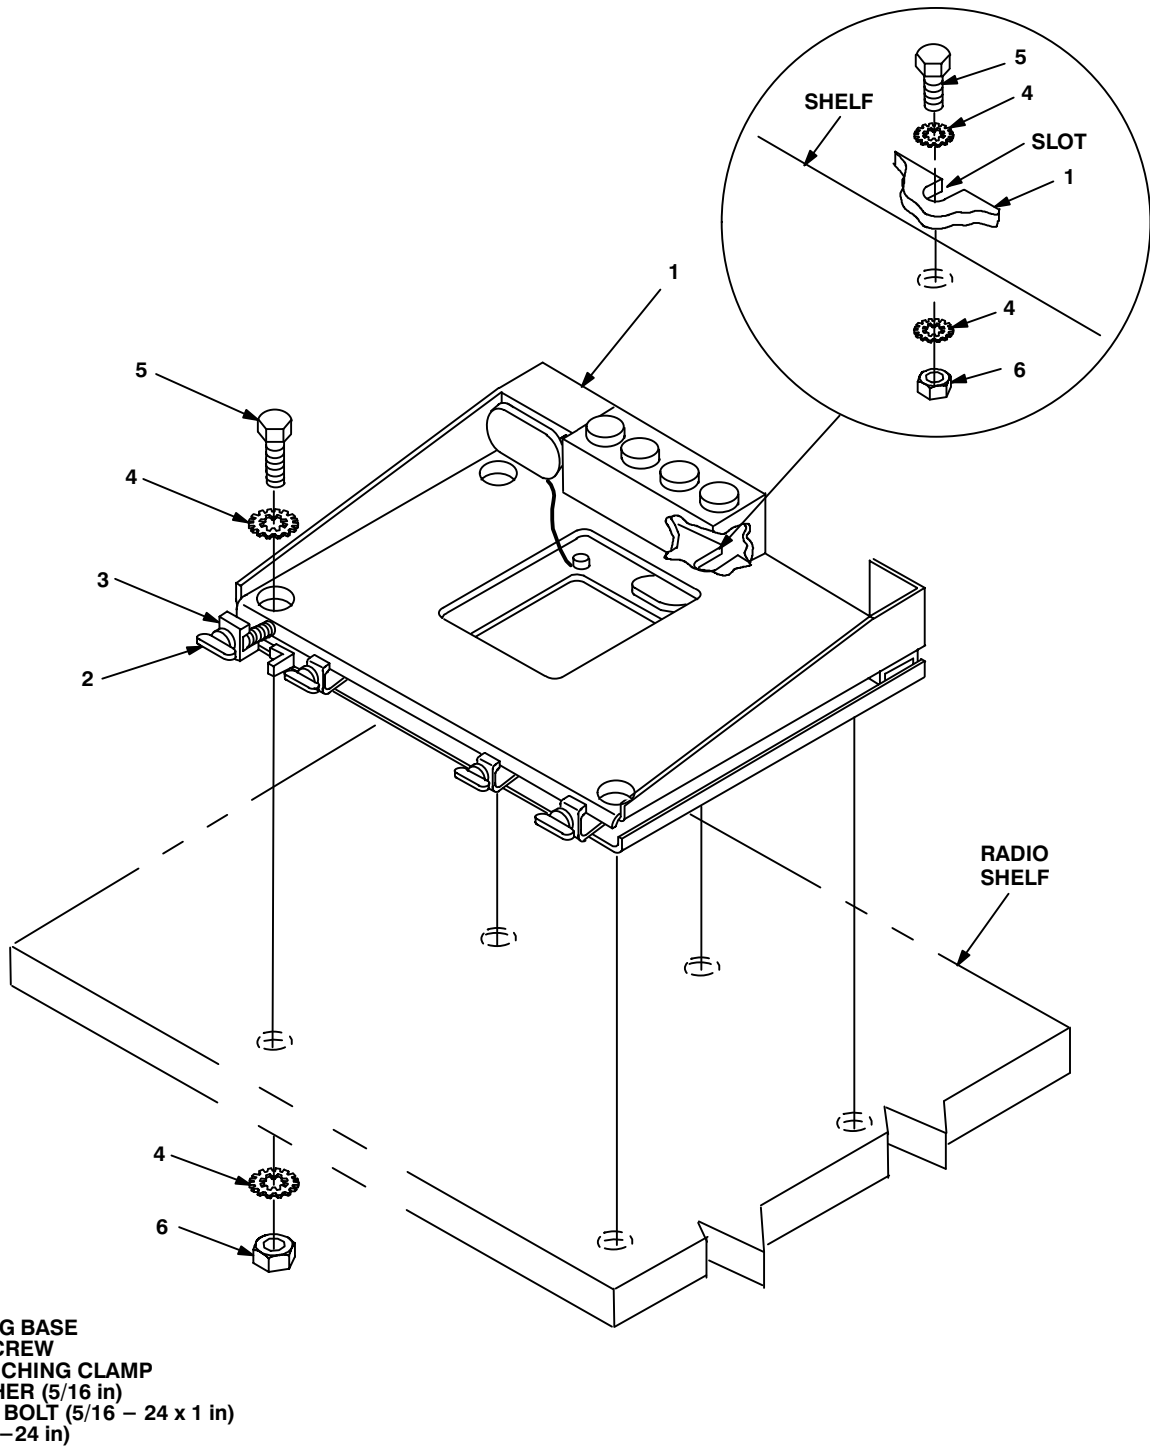
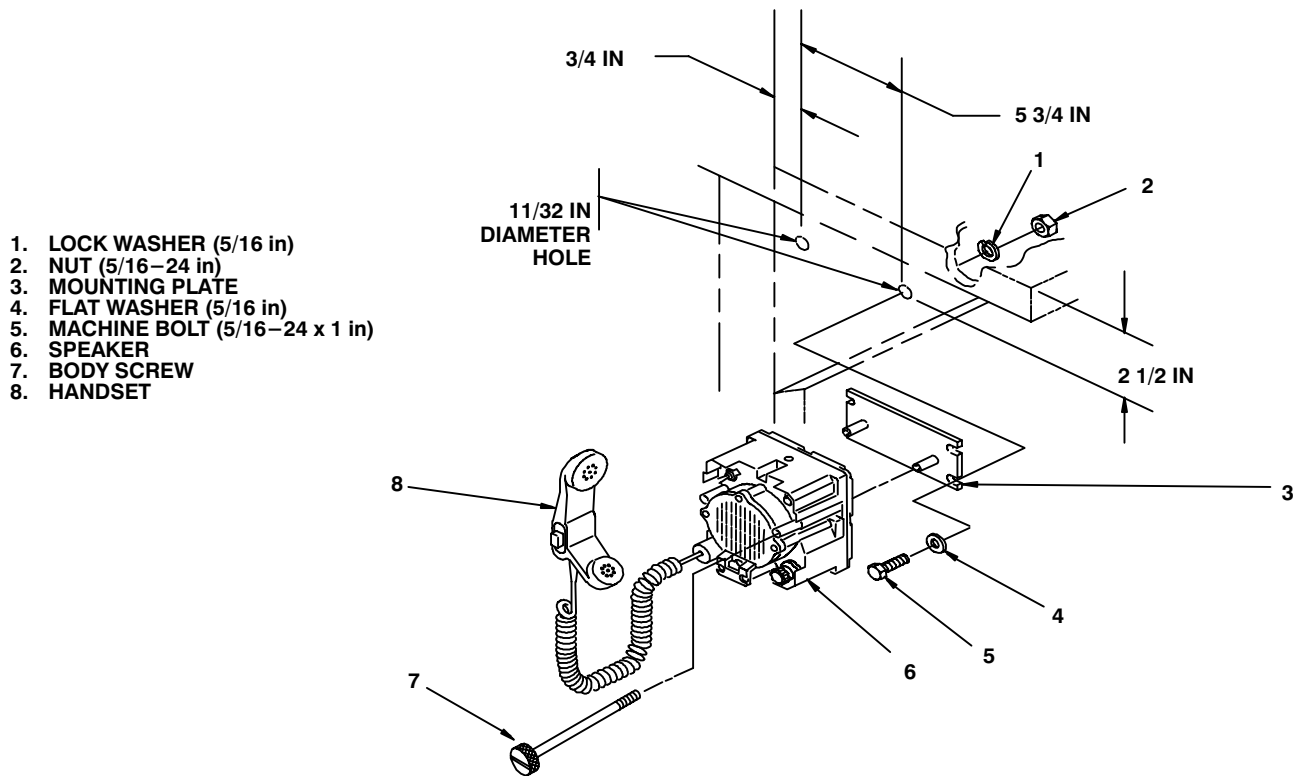

Figure 5-4. Mounting Base Installation: Radio Shelf
Figure 5–5. Speaker Installation
5.2 Installation of Mounting Base, Electrical Equipment MT-6352/VRC (mounting base). Remove and retain attaching bag of 5/16 in mounting hardware for installation. To insure good electrical grounding, any rust, corrosion or paint around mounting holes in radio shelf should be removed before installing the mounting base. See figure 5-4 and perform the following steps.
a. Mounting base (1) and existing radio shelf.	Remove a 2" square area of paint on the underside of the mounting base (1) around left front and rear mounting holes. Remove a 2" square area of paint on the existing radio shelf around the existing mounting holes that mate with left front and rear mounting holes of mounting base (1). Clean the paint removed areas and apply a thin coat of conductive anti-seize compound.	Tools: Electric grinder or equivalent.
b. Mounting base (1).	Place on radio shelf over existing holes. See figure 5-4.
c. Two outer thumbscrews (2).	Turn ccw until both sets of threads have cleared center of holes.
d. Mounting base (1).	Aline four holes and rear slot with matching hole pattern in shelf.
e. Five machine bolts (5), ten IET washers (4), and five nuts (6).	Install and secure to mounting base (1) and shelf.	Tools: 1/2 in socket and 1/2 in open/box wrench.
f. Two outer thumbscrews (2).	Tighten and secure to rim clenching clamps (3) and mounting base (1).
5.3 Installation of Loudspeaker–Control Unit LS–671/VRC (speaker). Perform the following steps to install the speaker. See figures 5–5(1) for location.
b. Cables.	Check for proper installation and connection of cables. See figure 5–7 for cable connections. Unused cables should be stowed in appropriate place inside the shelter.
e. Radio issued with shelter.	Install and connect cables. See TM 11–5820–890–20–1 or TM 11–5820–890–20–2 for installation and Operational (OP) Check instructions.